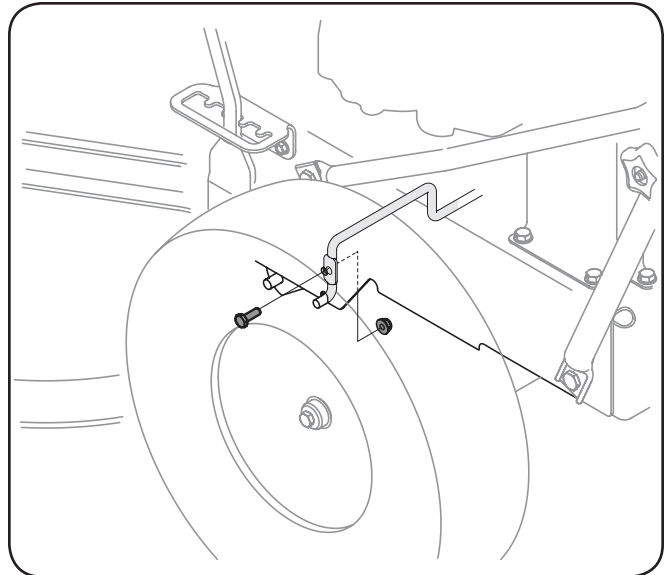

Figure 7-2
5. Remove the screw and flange nut which secures the belt keeper rod to the left side of the mower's frame. See Fig 7-2.
3. Remove the belt keeper as instructed earlier in this section. Refer to Fig. 7-2